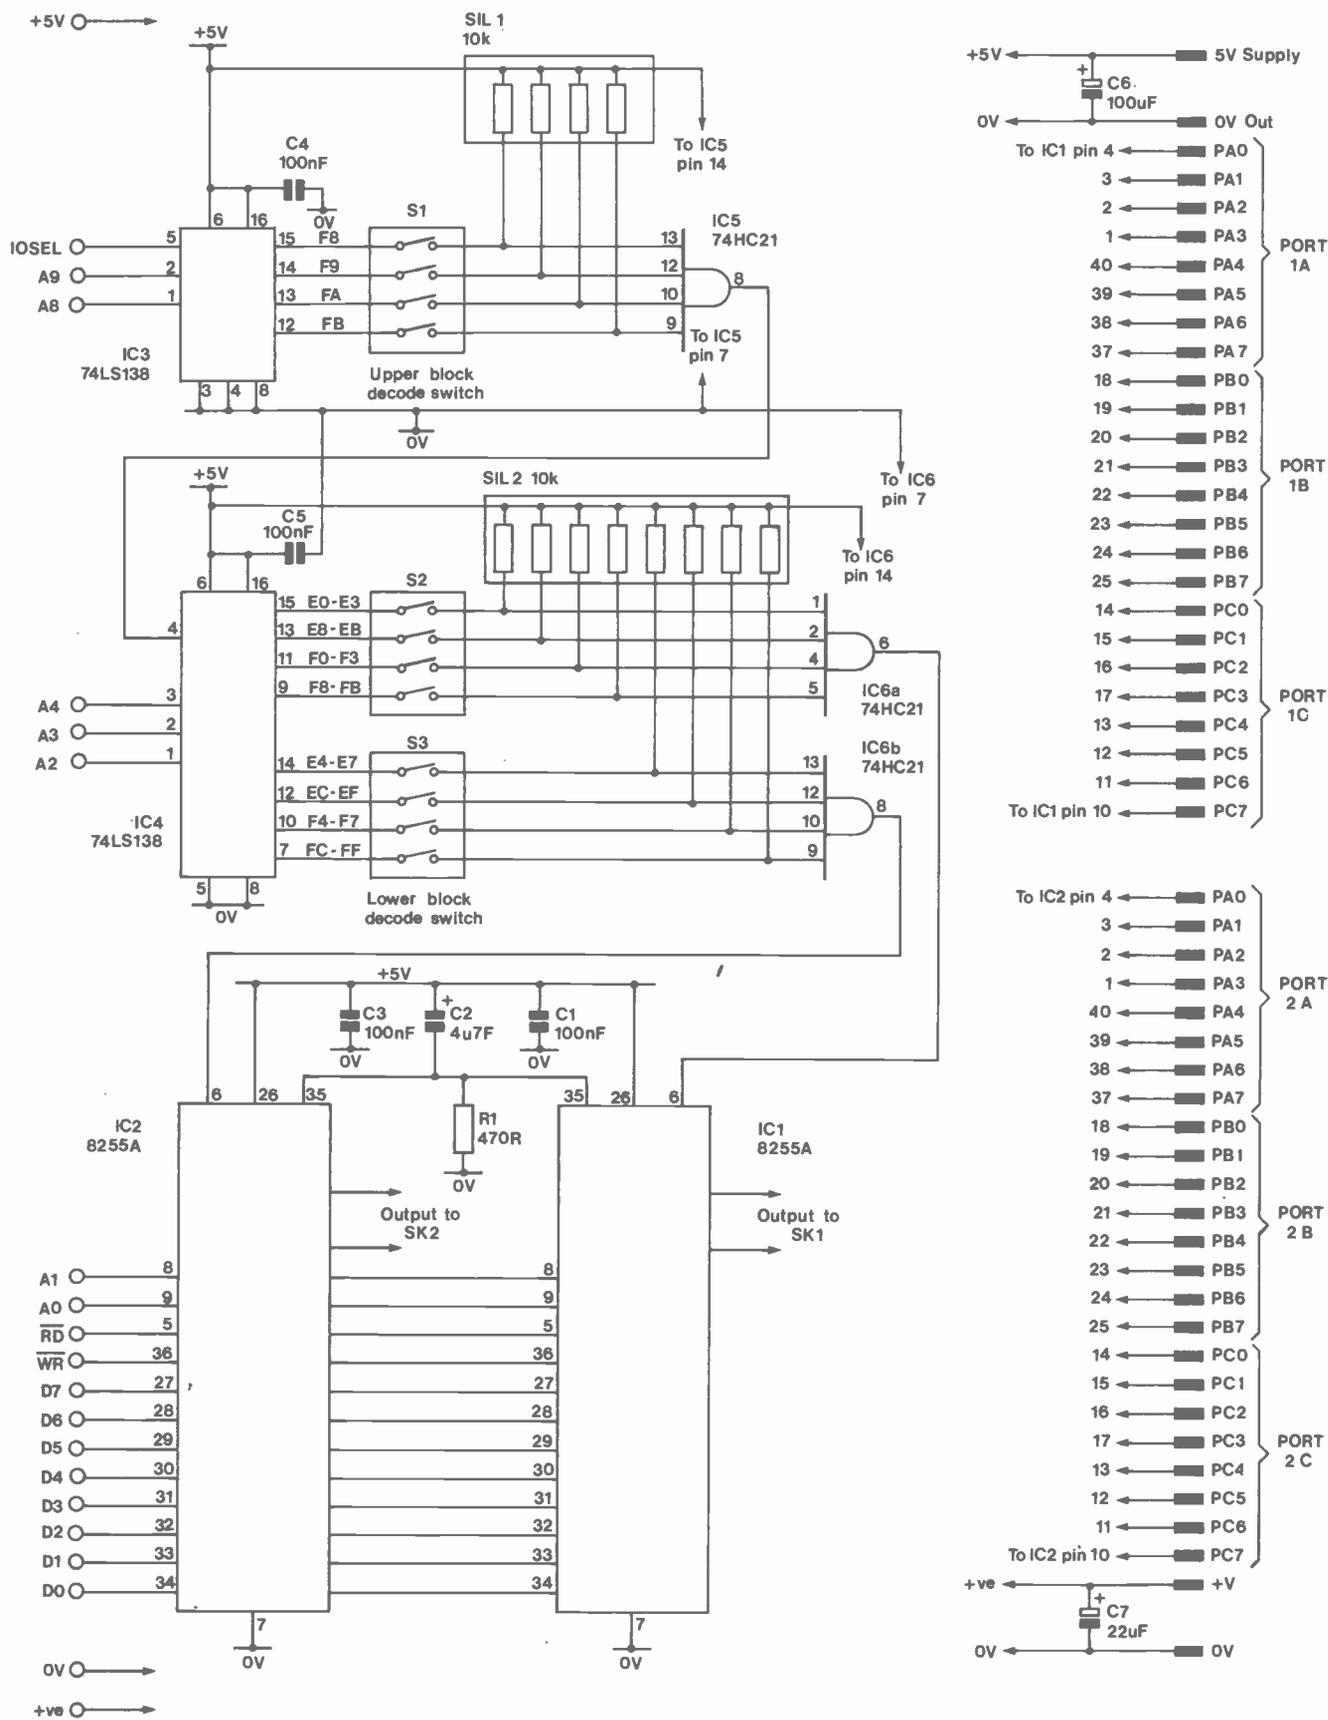

Figure 1. 6 x 8-bit Port Circuit
Firstly, the most popular method of refrigeration is the vapour compression system and this is the system we will concentrate on. A simple circuit diagram is shown in Figure 1. At the heart of the system is a hermetically sealed motor compressor, which is a compressor (generally reciprocating) with an electrical motor fixed on the compressor, supported on springs (to reduce vibration) put in a metal can, with oil being added for lubrication purposes. An outlet is provided for the electrical wiring, with a copper pipe outlet for the discharge of refrigerant vapour and a copper pipe inlet for the refrigerant return or suction line. In addition the can is welded to produce a sealed system.
Figure 1. An elementary mechanical refrigerator. A—Refrigerator. B—Liquid refrigerant receiver. C—Refrigerant control. D—Evaporator. E—Motor-driven compressor. F—Condenser. In this refrigerator, the refrigerant is not allowed to escape, but is recycled, as necessary, to get the desired temperature.
As shown in Figure 1, this liquid collects in a liquid receiver which in domestic refrigerators is omitted for reasons of cost. From the liquid receiver, the liquid refrigerant passes to a refrigerant flow control, which is a length of coiled fine bore copper tubing, called a capillary control in a domestic refrigerator or freezer.
Figure 1 shows two 8255A (P.P.I.) devices, IC1 and IC2. Both devices are fully programmable for a variety of I/O functions, and contain four main registers each. In each case address lines A0 and A1 determine which 8255 register is accessed, with the RD and WR lines controlling data flow into or out of the register via data bus D0 to D7. IC3 and IC4 decode address blocks allocated by the Amstrad, and enable IC1 and IC2 at the correct time. IOSEL, A8 and A9, are decoded by IC3 to produce upper byte values (Hex) F8, F9, FA and FB. Any combination of values can be selected by switch S1, to produce a negative or active low (E) pulse from IC5 to IC4 pin 4. Similarly, IC4 decodes lower byte values from A2, A3 and A4, being selected by switch S2 and switch S3. Again, any combination of 1 to 4 switches can be selected to produce a negative (CS) select pulse from IC6 to IC1 and IC2. R1 and C2 produce a short positive pulse when the supply is first connected. This pulse RESETs both PPI's by clearing their control registers, thus setting all ports to the input